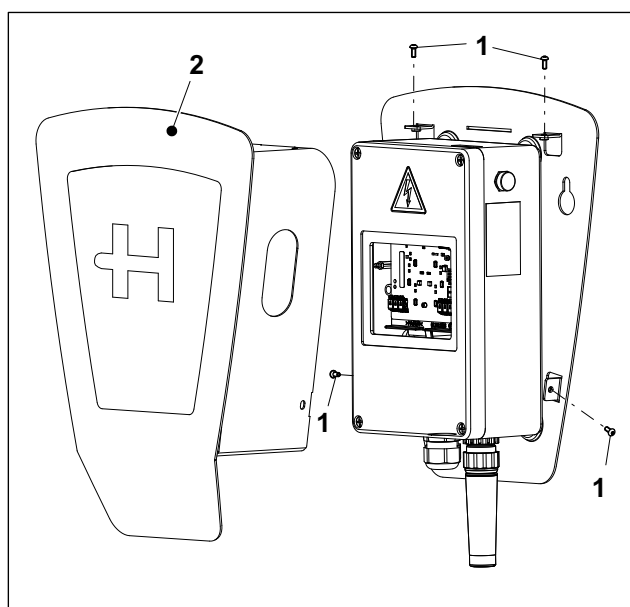

Fig. 8 Wallbox Energy Control with cover
10. Replace the cover, fasten it with the four screws M4x10 (Fig. 8/1) and tighten them (1.8 Nm). The four screws are included in the enclosed accessories.